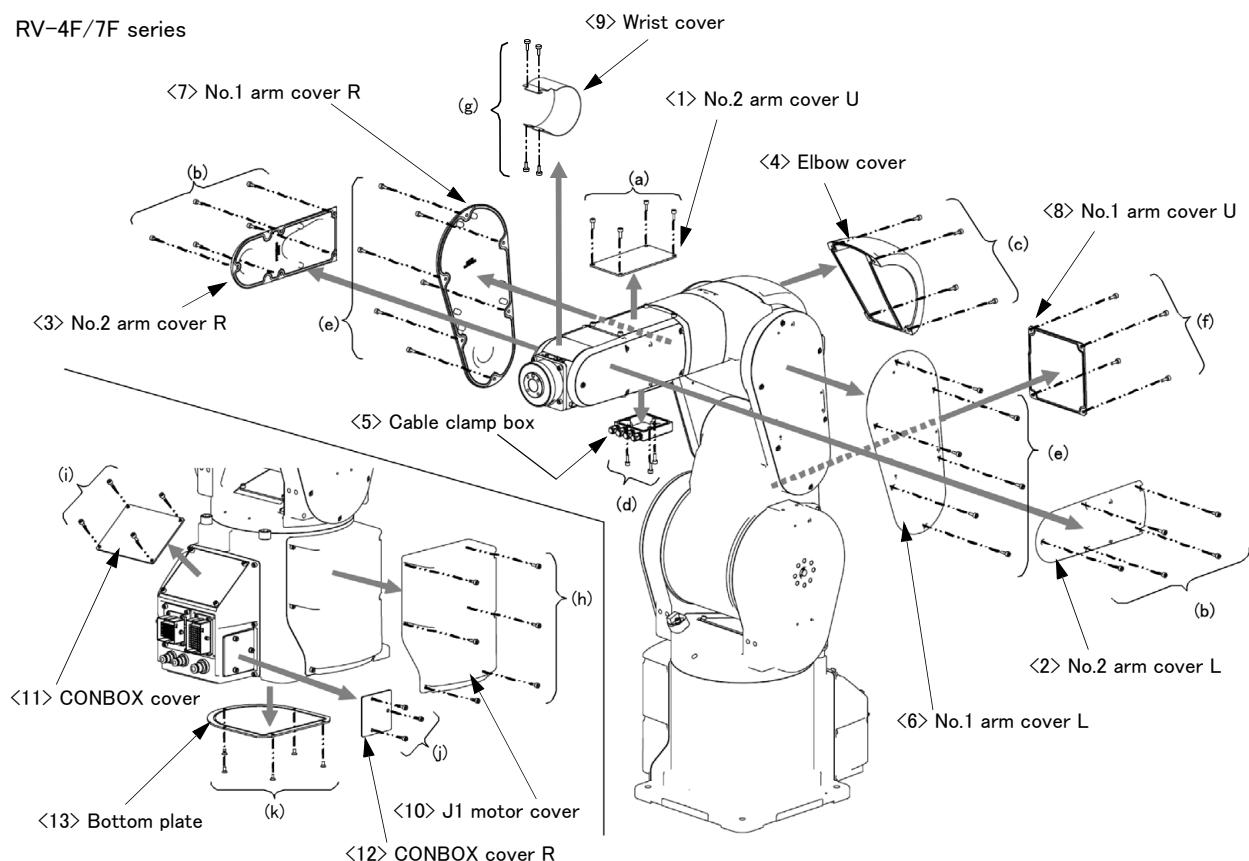
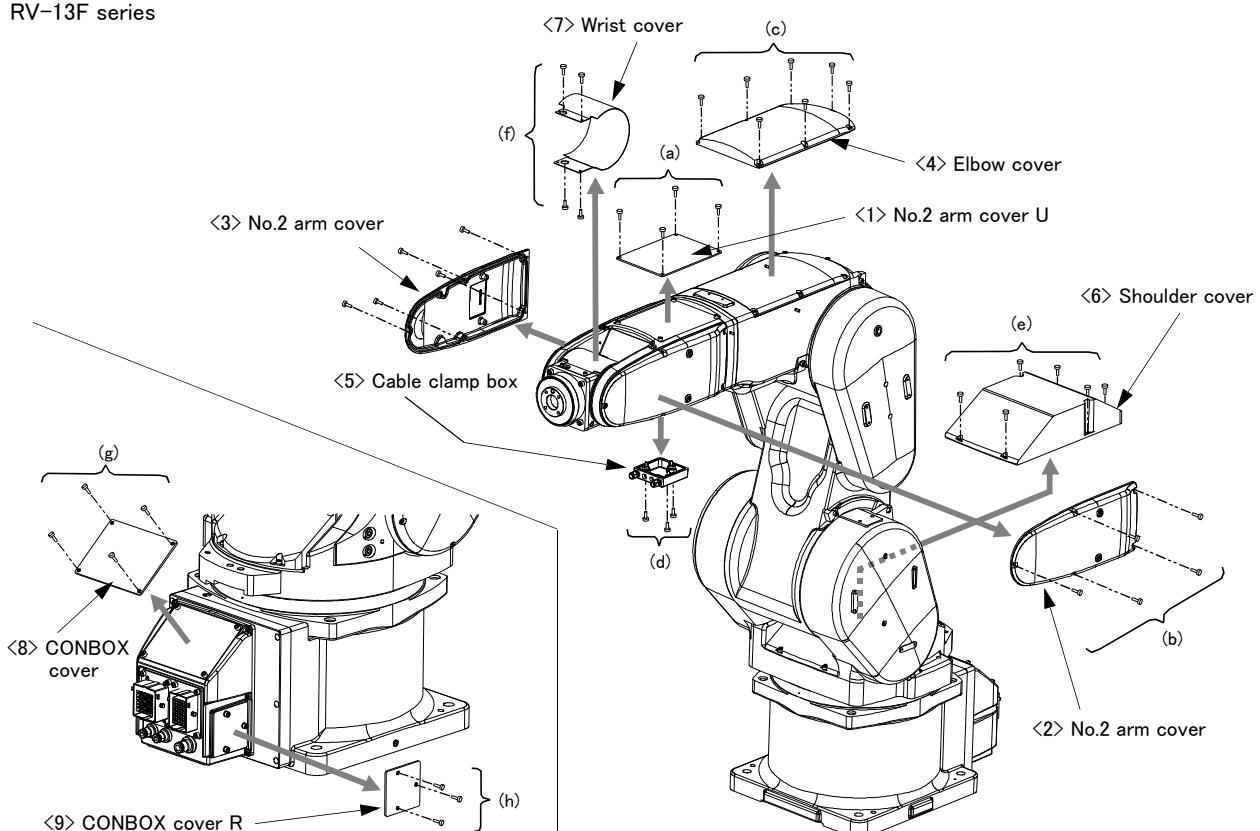
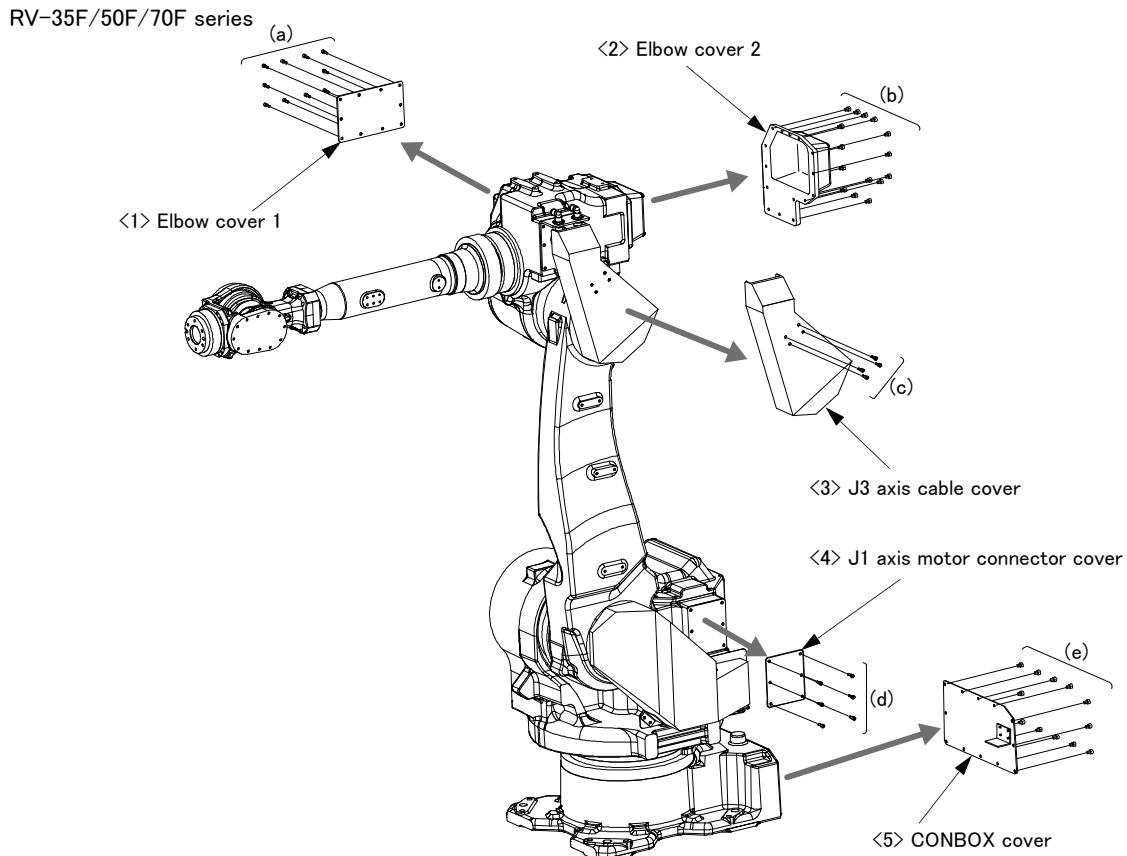

Fig.5-5 : Installing/removing the cover (RV-4F/7F series)
Fig.5-6 : Installing/removing the cover (RV-13F series)
Fig.5-7 : Installing/removing the cover (RV-35F/50F/70F series)
- (1) Refer to Fig. 5-5 (RV-4F/7F series), Fig. 5-6 (RV-13F series), or Fig. 5-7 (RV-35F/50F/70F series), and remove the covers.
- (2) Table 5-3 lists the names of the covers and the cover fixing screws.
- (3) Depending on the robot's posture, some covers are hard to be removed. In such a case, change the robot's posture by performing jog operation to remove the covers.
- (4) When removing the wrist cover, move the J5 axis to the position of +90 degrees by jog operation.
- (5) When attaching the cover after maintenance and inspection, use the detaching procedure in reverse.
The part Nos. and symbols in Table 5-3 correspond to Fig. 5-5 (RV-4F/7F series), Fig. 5-6 (RV-13F series), or Fig. 5-7 (RV-35F/50F/70F series).